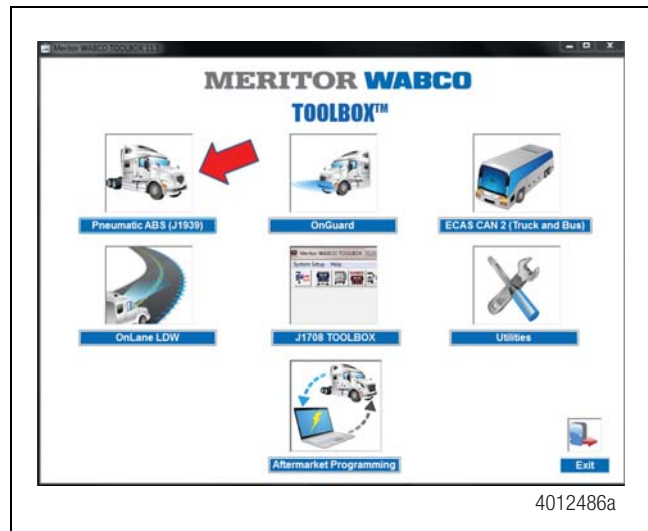

Figure 2
2. Connect your laptop or PC to the vehicle. Launch the Meritor WABCO TOOLBOX™ Software and click on the Pneumatic ABS icon for Truck, Tractor and Buses. Figure 2.